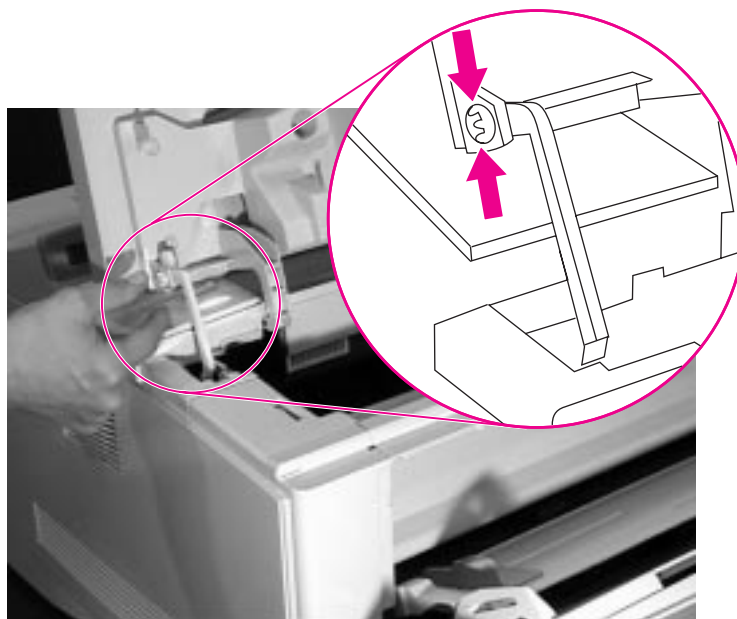

Figure 6-5 Toner Cartridge Engagement Arm
- 1 Release the Toner Cartridge Engagement Arm from the inside of the Top Cover (Figure 6-5). The shaft of the Engagement Arm fits through a molded plastic ring on the left side of the Top Cover. Gently squeeze the locking tabs on the end of the shaft, and slide the shaft through the ring.